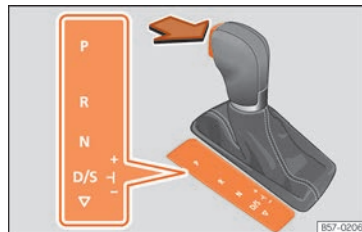

Fig. 244 Selector lever lock.
- Press the brake pedal *and*, at the same time, hold the lock button in the direction of the arrow »» Fig. 244.